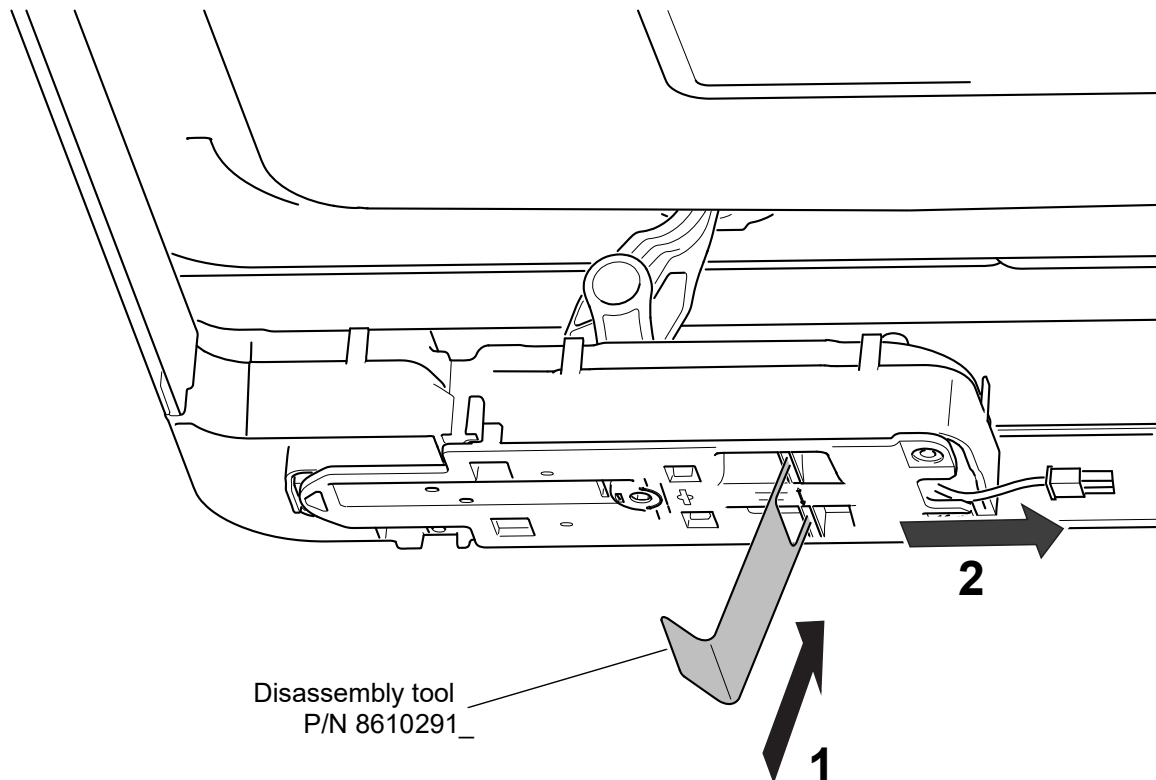

Fig. 806
4. Insert disassembly tool P/N 8610291\_ into the both holes at the bottom of the lifting mechanism (see Fig. 806).